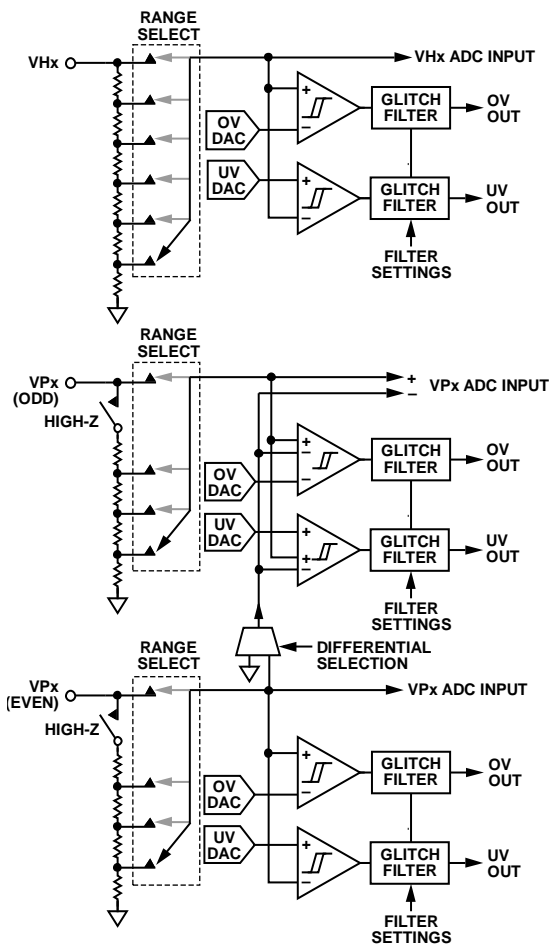

Figure 9. Supply Fault Detectors
The ADM1266 has 17 programmable supply fault detector (SFD) inputs. These dedicated inputs are labeled VHx (VH1 to VH4) and VPx (VP1 to VP13). The ADM1266 is also capable of making precision differential voltage measurements on the VPx pins (the exception is that VP13 cannot be used for differential measurements). One differential measurement requires two VPx pins. The odd numbered VPx pin (for example, VP1) must always be the greater voltage. The next corresponding even number VPx pin (for example, VP2) is used for that differential measurement. Both differential VPx pins must have the same input range selections. The SFD for the odd numbered VPx pin responds to the differential measurement. Figure 9 shows the arrangement of the pins. Each SFD input can be configured to detect an undervoltage (UV) fault (the input voltage drops below a preprogrammed value), or an overvoltage (OV) fault (the input voltage rises above a preprogrammed value). A programmable (up to 100 μ s) glitch filter allows the user to remove any spurious transitions such as supply bounce at turn on.
The UV and OV comparators shown in Figure 9 are always monitoring and sensing the voltage on VHx and VPx. To avoid chatter (multiple transitions when the input is very close to the set threshold level), these comparators have digitally programmable hysteresis. The hysteresis is added after a supply voltage goes out of tolerance. Therefore, the user can program the amount above the UV threshold to which the input must rise before a UV fault is deasserted. Similarly, the user can program the amount below the OV threshold to which an input must fall before an OV fault is deasserted.
The ADM1266 has an on-board, 12-bit accurate ADC for voltage readback over the PMBus using the READ_VOUT command (Register 0x8B). Inputs to the ADC consist of the 17 SFD inputs (VHx and VPx pins). The inputs to the ADC come from the back of the input attenuators on the VPx and VHx pins, as shown in Figure 9.